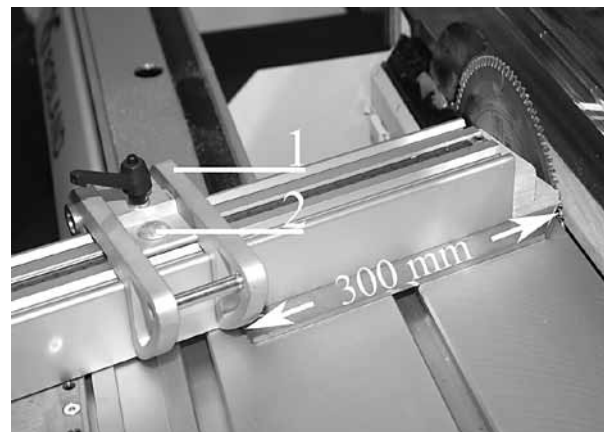

Fig.19
Each and every time changing a blade with different specifications it is vital to calibrate the scale of the length supported guide according the following application. Block the knob (1) with the 300 mm piece and adapt the graduated scale till obtaining 300 mm in the lens.(fig. 19,2) Continue the same way with the digital stop option, pressing << SET >> and the stop will be automatically adjusted. Test the setting, making a little cut just to verify. For the work with the telescopic extension of the guide (permitting to cut at approximately 3000 mm), place the knob (fig. 20-21,3) on the exact measurement of 2050 mm, so that the scales corresponds on the two different parts. The reading can be done on the index (fig. 20,4), on the fixed part of the length supported guide. To verify if the effective measurements correspond to the regular dimensions mentioned in the index; continue with a test, placing the two knobs at a certain dimension and check if the maintained measurements correspond with the ones of the index. When, after some time, the wooden splitter protection cap at the front on the cross-cut fence is cut away, a new one has to be made according diagram fig. 22